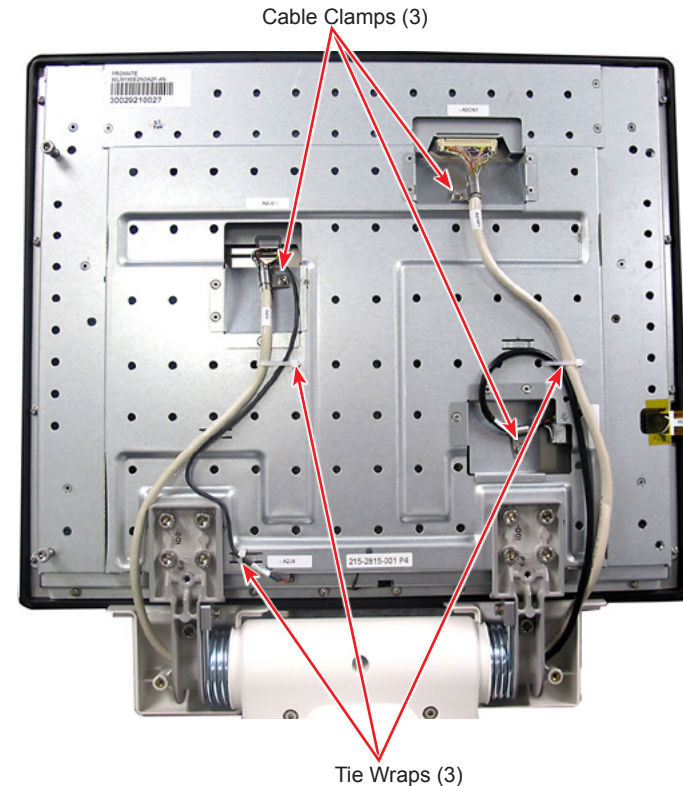

Figure 3-40 Display Cable Routing
- 37.2 Cut three tie wraps securing cables W104-CNP1, W103-P2 and P4, and W126-P1 to Display Assembly (see Figure 3-40).
REPLACEMENT: Note cable routing as shown in Figure 3-40.